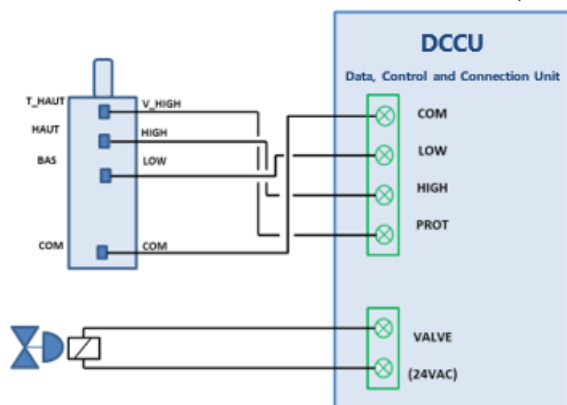

Figure 55 - Connecting Water Level
- Connect the 4 cores to the connector on J20 (see Figure 55 - Connecting Water Level).
- Connect the 2-core wire from the valve solenoid to the connector on J20 marked (VALVE 24VAC) according to Figure 55 - Connecting Water Level. Polarity is not important.